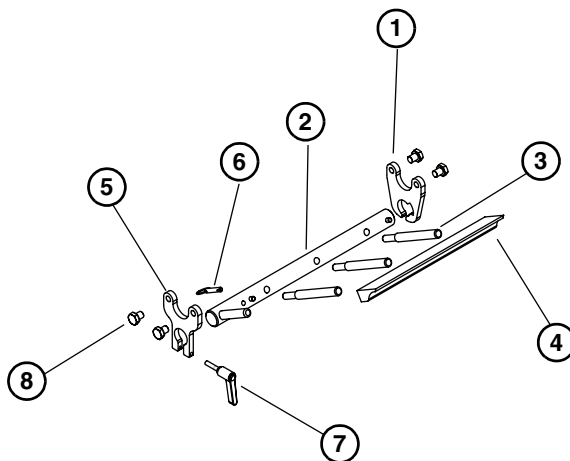

Figure 30
Typical Scraper Components (**Figure 30**)
1. Attach the scraper adjust plate (**Figure 30, item 1**) and the scraper mount plate (**Figure 30, item 5**) to the frame using four M10-1.5 x 12 mm hex head cap screws.